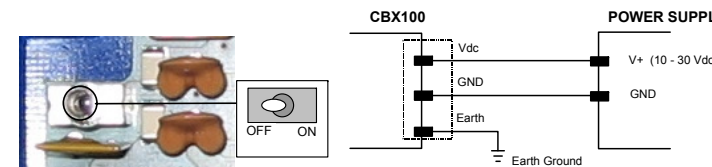

Figure 3 - Power Switch ON/OFF Positions and Connections
Switch ON the CBX100 power switch (see Figure 3). The Power LED turns on (blue) when the power connection has the correct polarity. The Power LED turns on (red) in case of wrong polarity.
The power switch (see Figure 3) switches the power supply ON or OFF for both the CBX100 and the connected reading device.
- 2) Verify that the CBX100 power switch is off (see Figure 3).